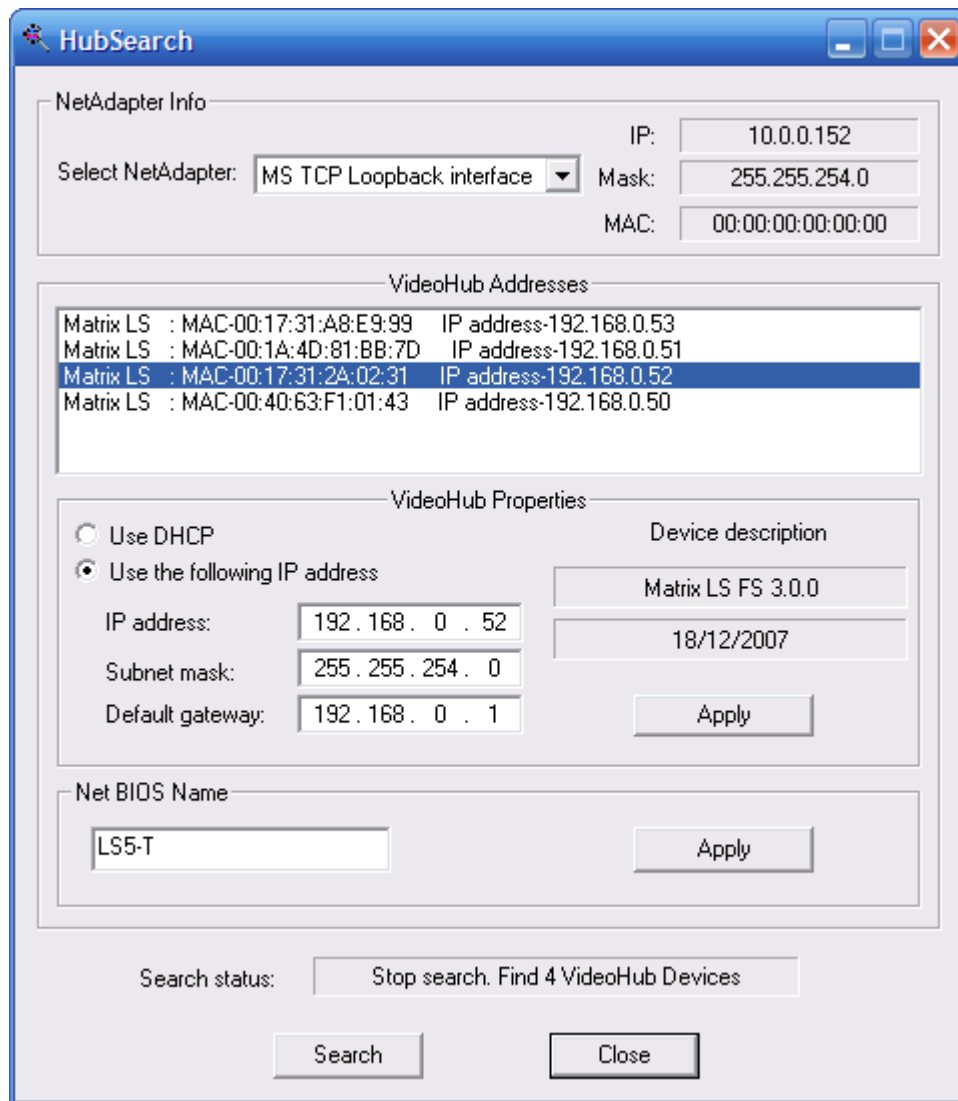

Figure 7.2-3 Search results for LS and LH
4. After the search is completed, the **Search status** field will read **Stop search. Find...** . The found devices will be added to the **VideoHub Addresses** list. Select the required LS (LH) from the list. The **VideoHub Properties** field will display the information on the selected device (Figure 7.2-3).